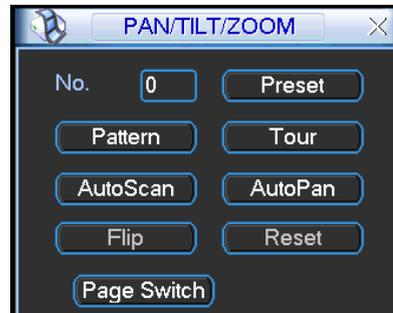

Figure 4-36
In Figure 4-32, click page switch button, the interface is shown as in Figure 4-36.
- The following setups are usually operated in the Figure 4-32, Figure 4-35 and Figure 4-36 .
In Figure 4-36, please input preset number in the No. blank, and click preset button.
In Figure 4-36, input mode value in the No. blank, and click pattern button.
In Figure 4-36, click “Auto Scan” button, the system begins auto scan. Correspondingly, the auto scan button becomes Stop button. Click stop button to terminate scan operation.
In Figure 4-36, click page switch button, you can see an interface is shown as below. See Figure 4-41. Here you can set auxiliary function. The aux value has relationship with the Aux button of the decoder.